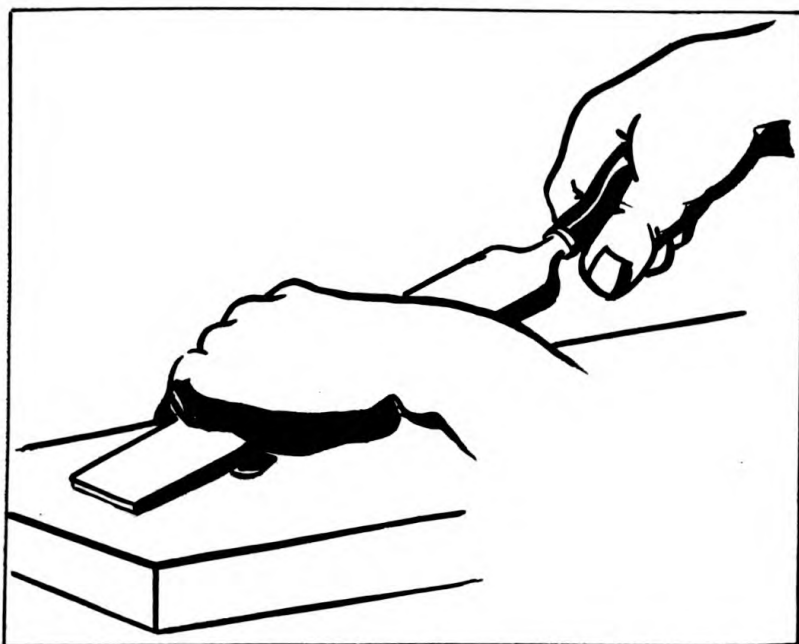

FIGURE 74.—Using flat scraper.
b. Use.—(1) *Flat scrapers.*—To scrape a flat surface, select a flat scraper of length and width suitable to the work. Figure 74 shows the right way to hold the tool; use light pressure to hold it against the work; the harder the material being scraped, the more pressure required. If there are holes in the work, avoid pushing the scraper across them; work around their sides instead. When scraping near the edge of a piece, work toward the edge, or at an angle to it, *not* parallel with it.